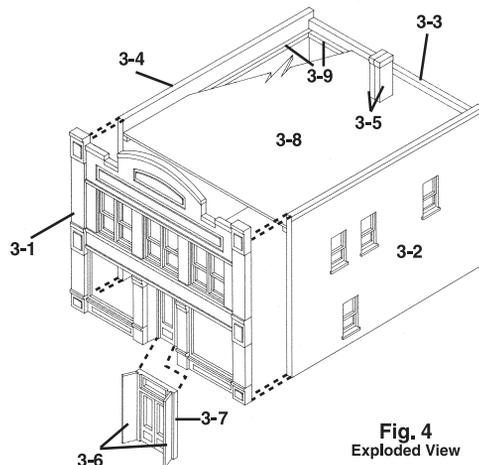

Fig. 4
1. Glue Roof to Roof Supports (Fig. 4).